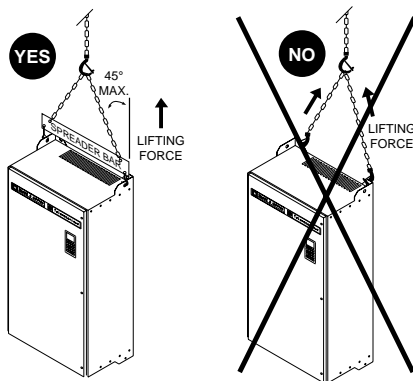

Figure 11: Hoisting ATV66D54N4 to C31N41 and ATV66D46M2
- With a hoist, attaching a spreader bar to the two lifting rings on top of the drive controller (see Figure 11) or
Keep area below any equipment being lifted clear of all personnel and property. Use lifting method shown below in Figure 11.
To hoist the drive controller, attach a spreader bar to the two lifting rings on top of the drive controller, as shown in Figure 11. Handle the drive controller carefully to avoid damage to the internal components, frame or exterior. Place the drive controller in an upright position.